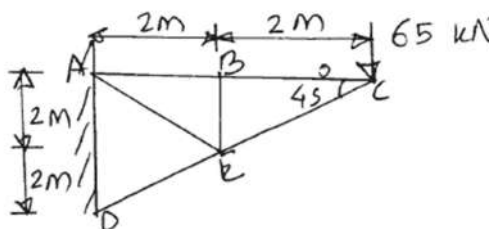

Fig. No. 9
- 18 Calculate magnitude and state nature of forces in members AB and AE and DE only by using method of sections for a truss as shown in Fig. No. 9.